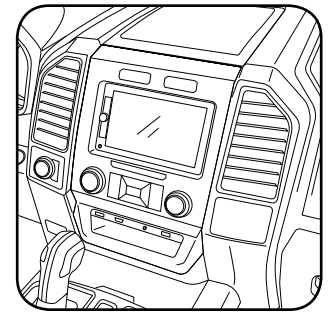

Fig. 2.0
- Connect all the harnesses to the FTR1 kit, and secure it in the dash. Test your installation before completely re-assembling the bezel to the truck. (Fig. 2.0)